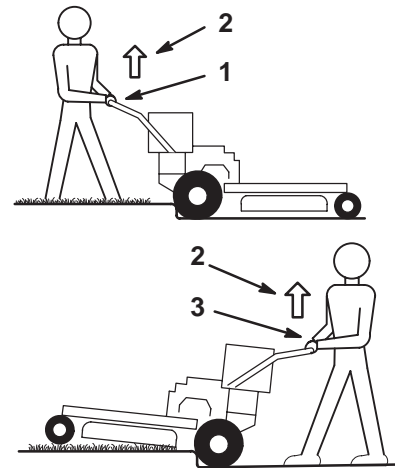

Figure 18
3. Drive machine until the castor wheels contact curb (Fig. 18).
4. Lift the front of the machine by pushing down on the handle (Fig. 18).
5. Drive machine until drive wheels contact curb (Fig. 18).
6. Lower the front of the machine (Fig. 18).
3. Drive the machine until drive wheels contact curb (Fig. 18).